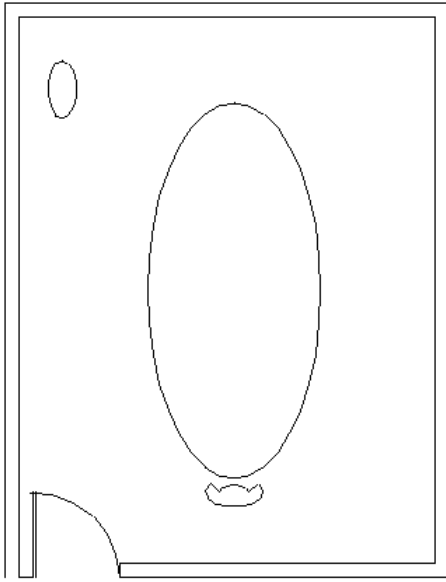

Figure 7-8: The conference room with a conference table, a chair, and a side table
9. Save your drawing. It should look like Figure 7-8.